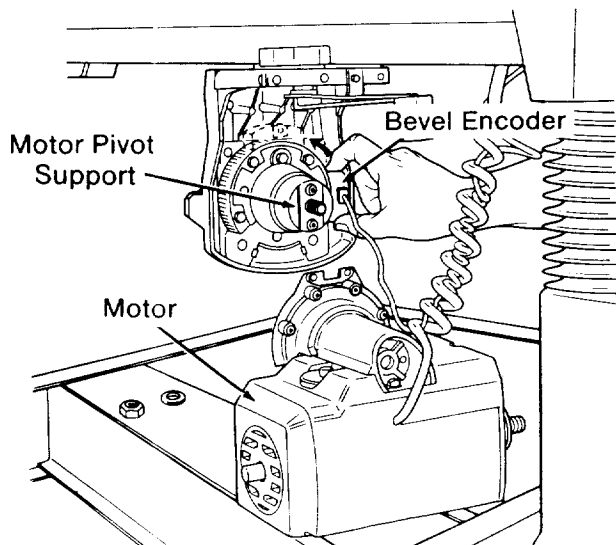

Fig. 36
7. Remove the lock nut and flat washer from the *motor pivot support*. (Figure 36)
8. Slide the *bevel encoder* to the top center position so it will fit into the notch on the *motor support bracket*. (Figure 36)